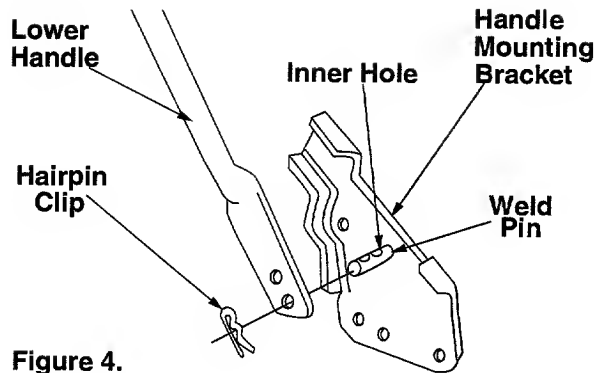

Figure 4.
5. Repeat on other side. See figure 4